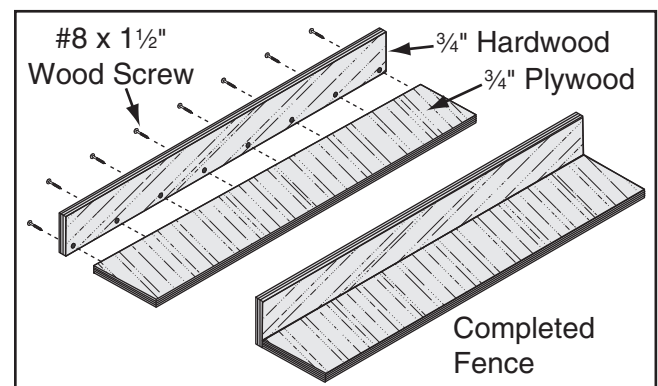

Figure 85. Location of pilot holes.
2. Pre-drill and countersink eight pilot holes $\frac{3}{8}$ " from bottom of 3" wide board, then secure boards together with eight #8 x $1\frac{1}{2}$ " wood screws, as shown in **Figure 85**.